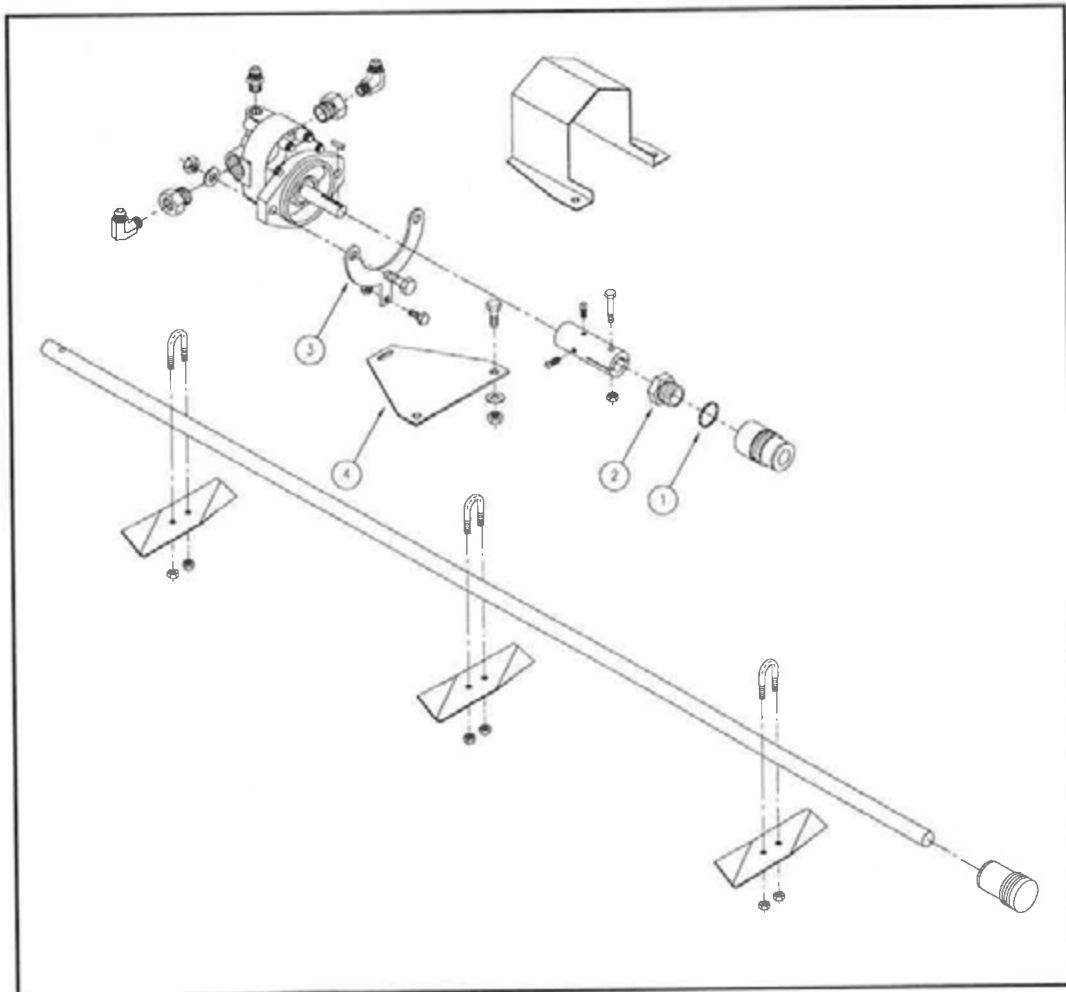

FIG 5.61
The gland packing (fig. 5.61, item 1) may require adjustment during start-up. If adjustment is required, shut off the agitation system and adjust the gland nut (fig. 5.61, item 2).
The agitator motors for the solution tanks are held in place with a motor mount yoke (fig. 5.61, item 3). The yoke tap must extend through the motor mounting plate (fig. 5.61, item 4). This allows the motor to float with the agitator shaft.